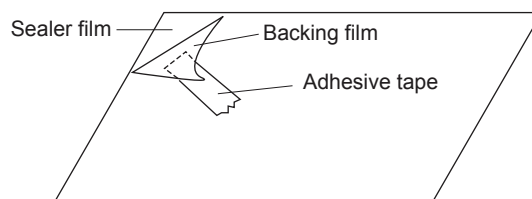

Figure C-7. Sealer film
3. Put sealer film on door panel. Refer to "Sealer Film" and figure C-7, on how to handle the new film.
4. Put sealer film on door panel. Refer to "Sealer Film" and figure C-7, on how to handle the new film.
5. Catch two (2) pins of door panel on two (2) hole of upper and lower oven hinges.
1. Put the adhesive tape on the backing film of the sealer film as shown in Fig. C-7